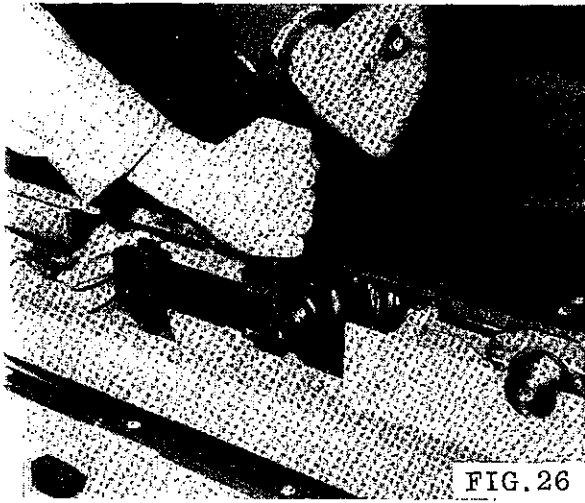

FIG. 26
- 4 Locate 8mm allen key (supplied) in main saw spindle as shown in FIG.26, then remove arbor nut (left hand thread) with 36mm A/F spanner (supplied) and front sawflange.